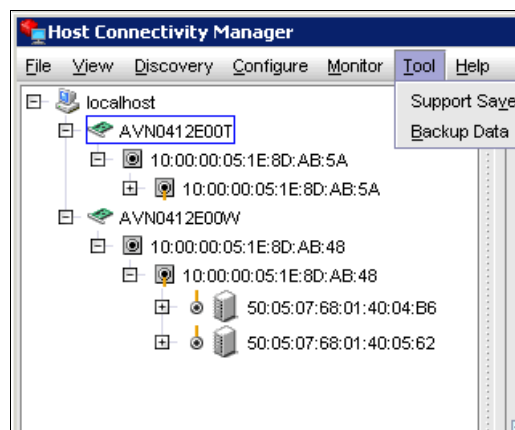

Figure 5-111 HCM Tool menu
- ▶ Perform data collection (Support Save) and HBA settings backup (Figure 5-111 on page 423).